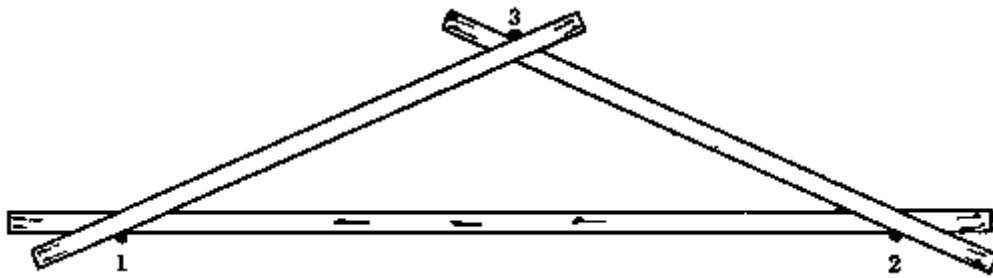

Fig. 1
- Place an iron peg at each side of the model where the rafters meet the tie beam (Fig. 1, pegs 1 and 2) and one peg at the ridge (peg 3). Remove the model truss.
- Lay the two rafters on the ground in the correct positions. Be sure that the members are in the correct positions with respect to the pegs, as in Fig. 1.